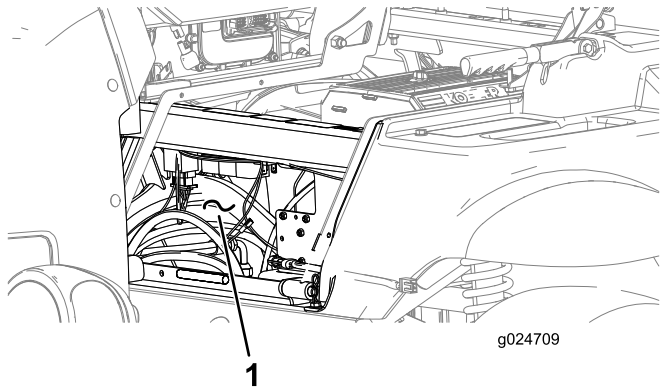

Figure 5
1. Route the wire harness through the front of the seat shroud (Figure 5).